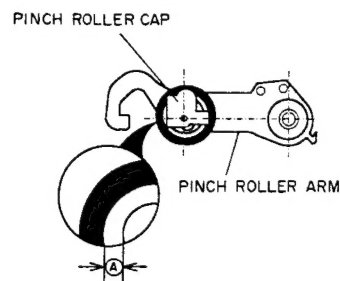

Fig.3-24
When reinstalling the PINCH ROLLER make sure that the thicker side of the PINCH ROLLER's (A) part faces up and also that the PINCH ROLLER CAP is installed in the correct direction as shown in Fig.3-24.